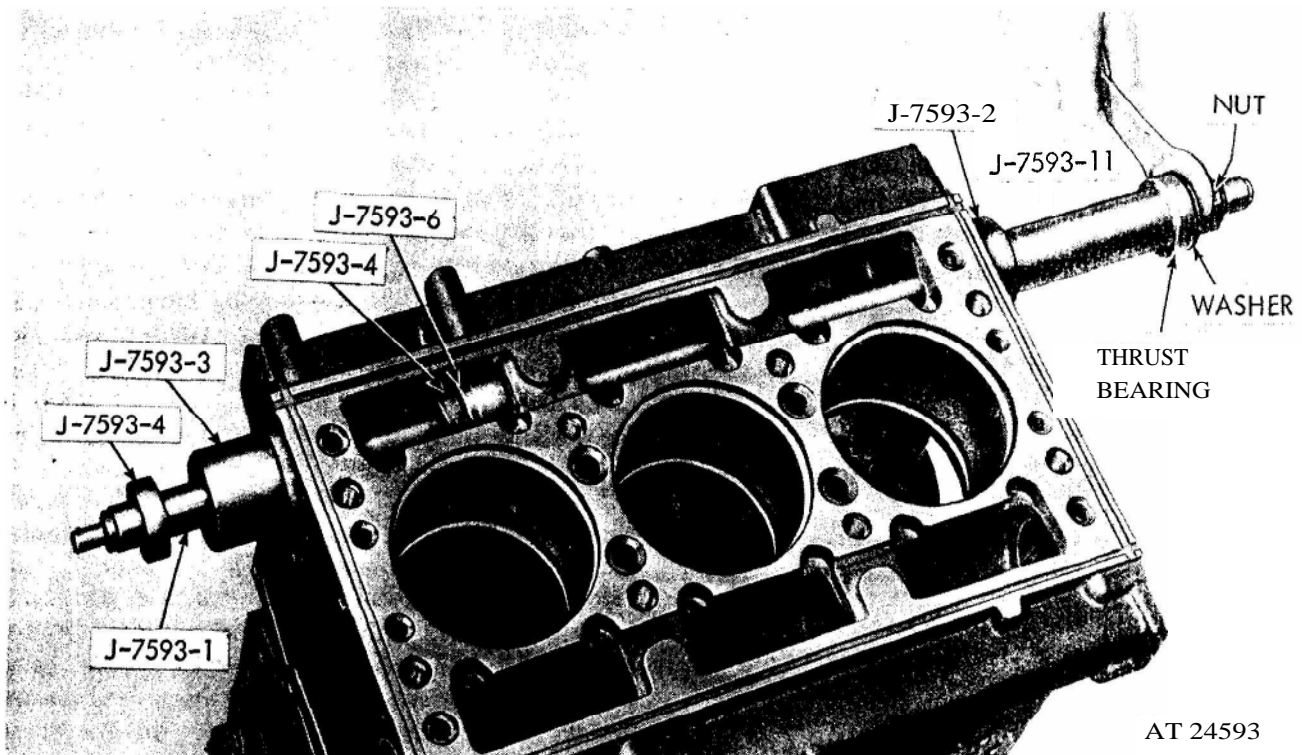

Figure 4. Installing intermediate camshaft bearing.
1. I nsert pilot J 7593-2 in the bore of the block as shown in figure 4. Use the small end of the pilot if an end bearing has been installed. See B and C of figure 6.
3. Next, place a spacer (if required), thrust washer, plain washer and hex nut over the threaded end of the puller. The short spacer J 7593-11, shown in figure 4, is used on the three cylinder block.